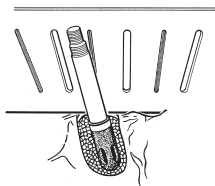

Fig. 3
2. Thread the Alignment Pin by hand directly into the divergent implant (or implant analog on a stone model) being careful not to cross-thread the pin. Place the stainless steel Angle Measurement Guide (Zest order #9530) behind the Alignment Pin, level with the path of prosthesis insertion, to determine the divergence in degrees. ( Fig. 3) An additional Alignment Pin can be placed into an adjacent non-divergent implant to determine the difference in the angle between it and the divergent implant.